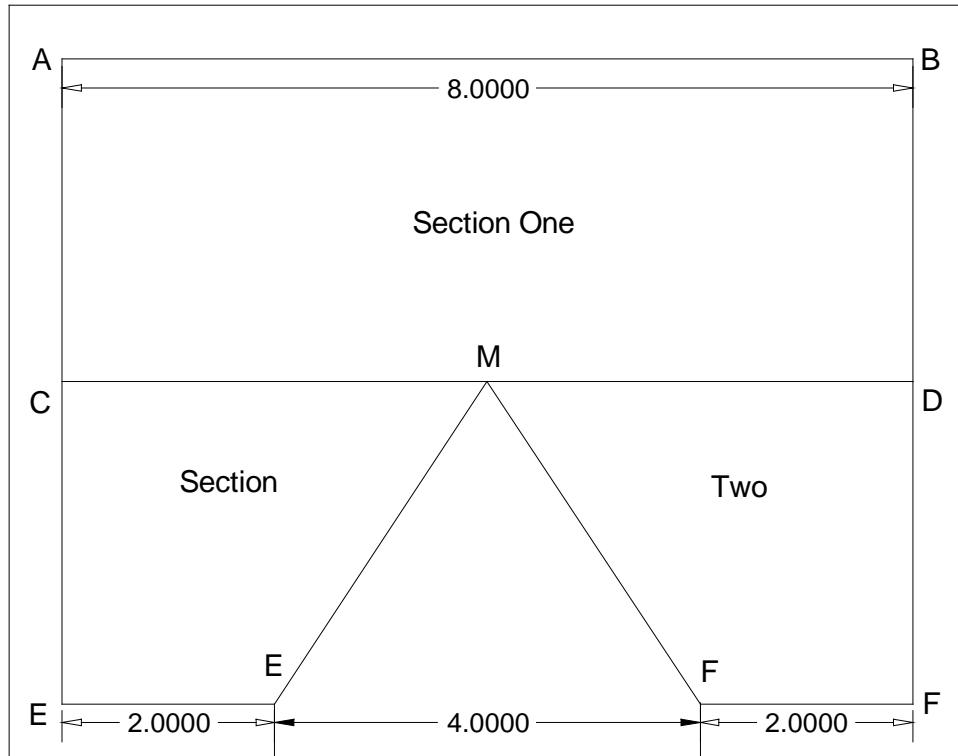

Figure 8.10
11. All of the dimensions given thus far are accurate. **Figure 8.10** provides us with a net for the roof as well as all the dimensions.
12. Line segments AB, CD, and EF are all 8 inches long and parallel to each other. We now know line segments AC and CE each to be 3 inches long, parallel and equal to the opposite side, line segments BD and DF. From the roof plan on **Figure 8.10**, we see that the front “bump out” takes up four inches of the roof on the front of the house. This leaves a panel on each side of 2 inches--and we know that the front gable interrupts the roof ridge at mid-point M.